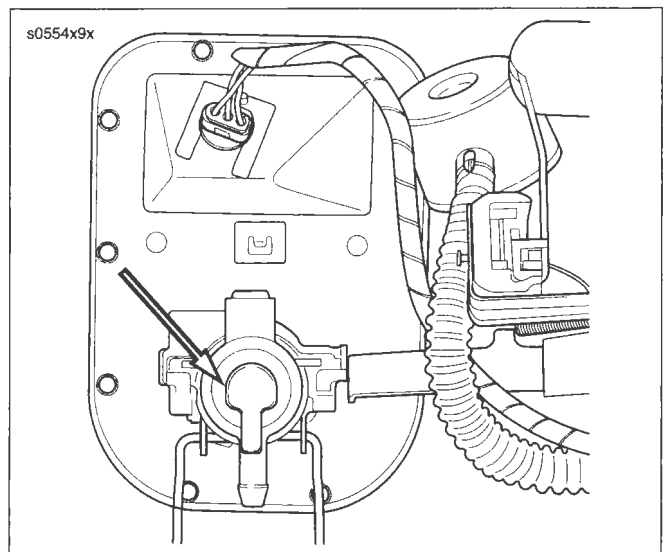

Figure 4-45. Regulator Housing
2. See Figure 4-45. Slide fuel pressure regulator assembly forward to free arms from top plate.